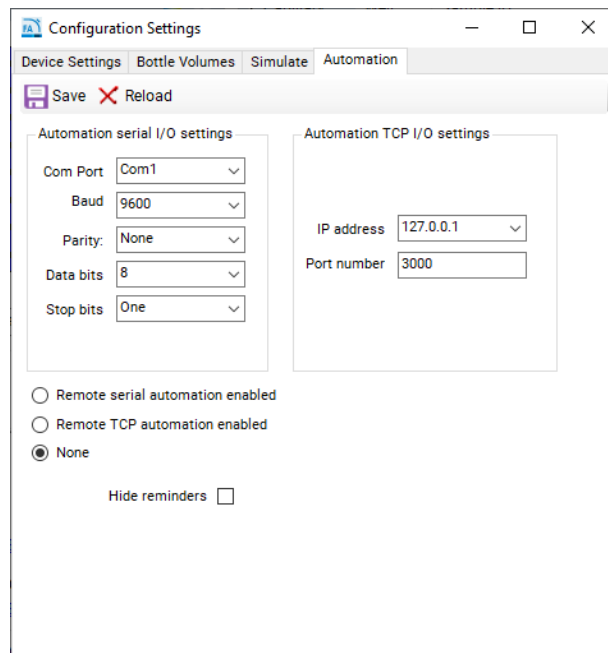

Figure 108 5400 Fragment Analyzer Automation configuration menu
The **Configuration Settings** window will open (**Figure 108**).
- 7 To enable serial port communication, select **Remote serial automation enabled** and ensure the parameters are set to those specified in section “**5400 Fragment Analyzer Communication Specifications**” on page 161, and shown in **Figure 108**.